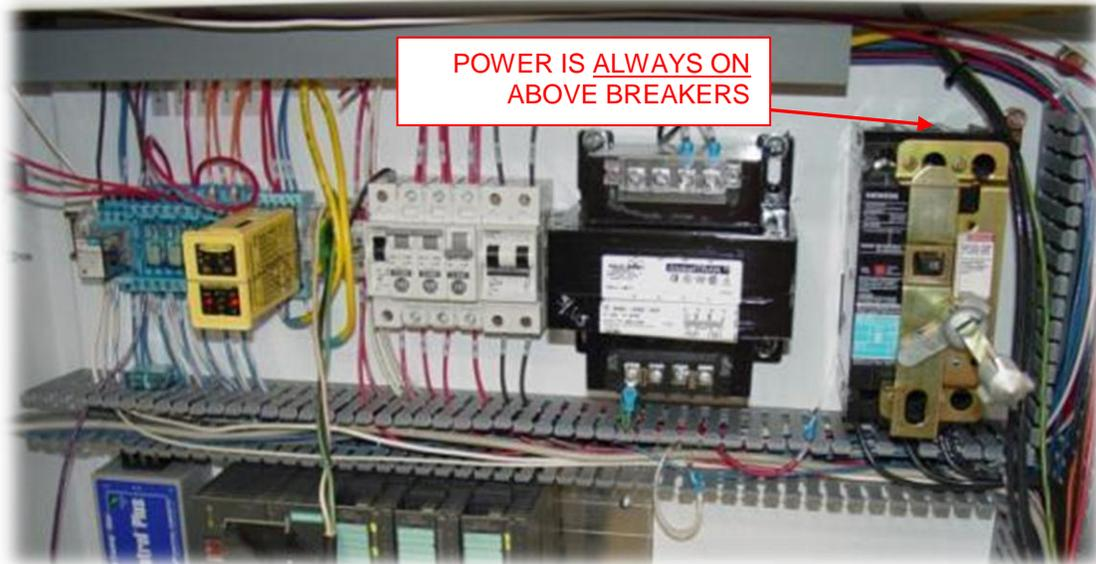

FIGURE 1
**--WARNING--**Be aware that when the control panel is open, power is ALWAYS ON at the top of the breakers, where power is coming into the panel. SEE FIGURE 1